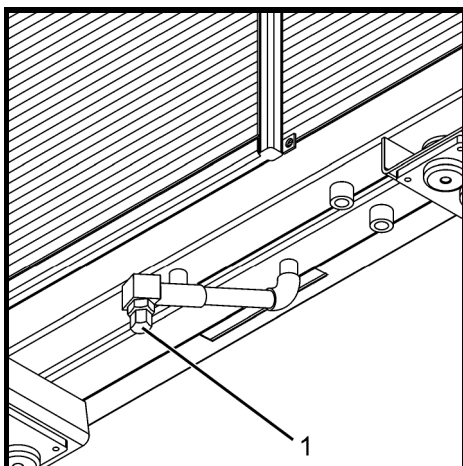

Fig. 7
The drain plug is located under the radiator (Fig. 7, pos. 1).